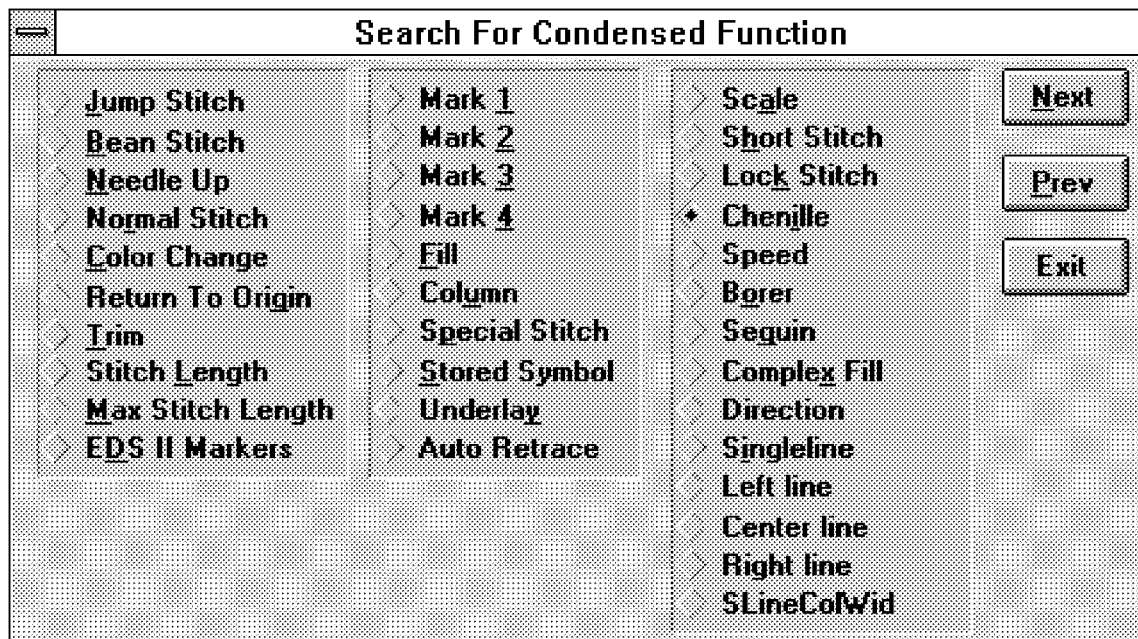
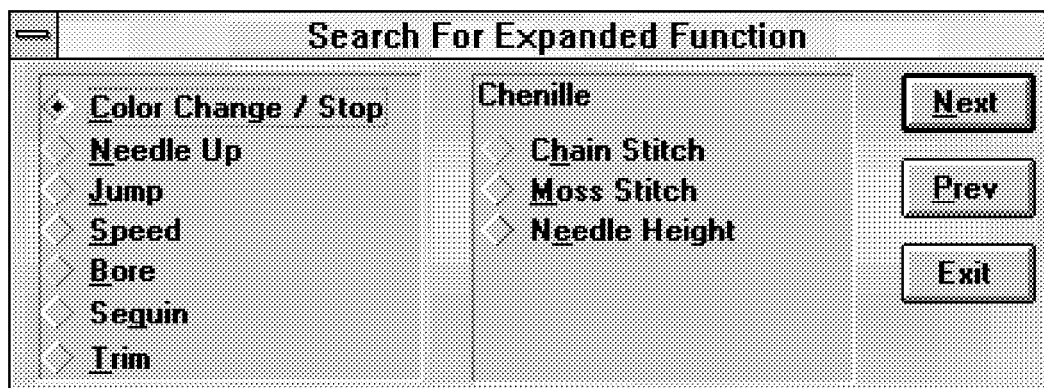

Figure 1-9
Figure 1-10
5. Depending on the type of design, one of the Search dialog boxes as shown in Figure 1-9 and Figure 1-10 will appear.